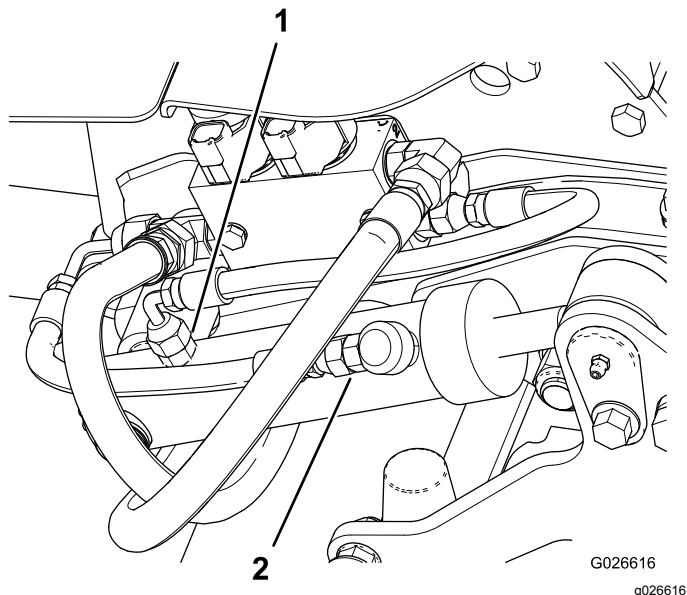

Figure 11
2. Remove the hose from the rear port on the deck-lift cylinder (Figure 11).
7. Remove the hose from the front port of the deck-lift cylinder (Figure 11).